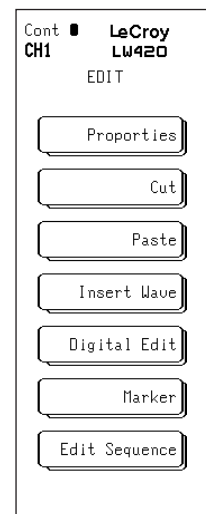

Figure 2.7
1. Push **Edit**—the menu in figure 2.7 will be displayed.